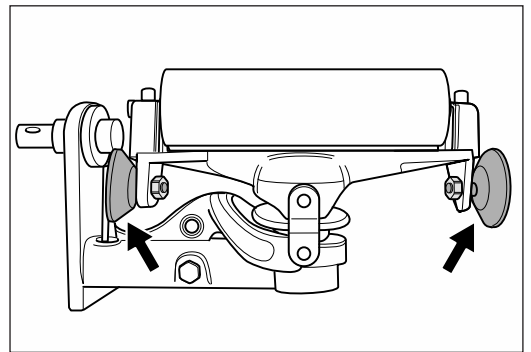

Fig. 43 **The two guide rollers must be rotatable easily! Otherwise they must be replaced!** **Similar to figure.**
- The two guide rollers at the drive unit **must be** rotatable easily (fig. 43)!